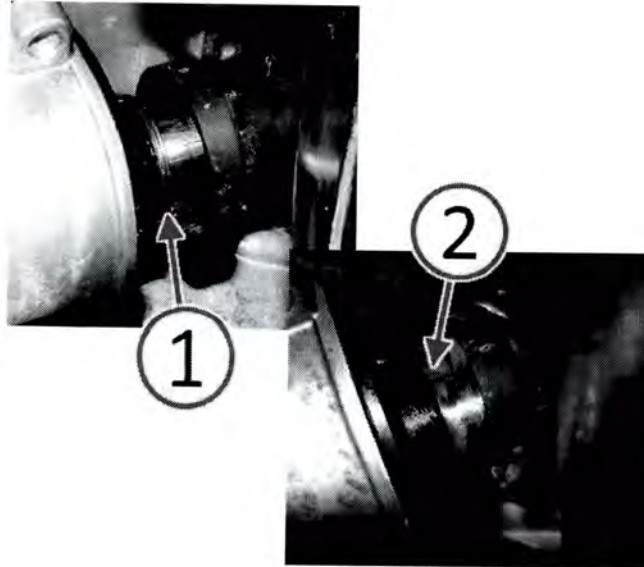

Fig. 3 Inspect Washer
5. Check if the pinion cover retaining washer is present (1) or missing (2) at the top edge of the pinion cover (Fig. 3).